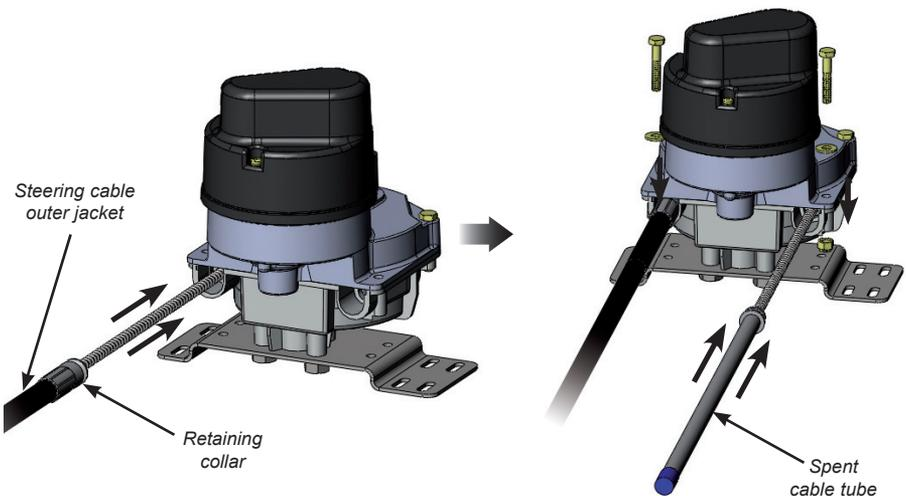

Fig B46 - Fitting steering cable and spent cable tube
- iii) Push the steering cable jacket into the port until the retaining collar butts against the drive housing (Fig B46). If required, the cable can be "driven" into the drive by powering up the clutch and drive.